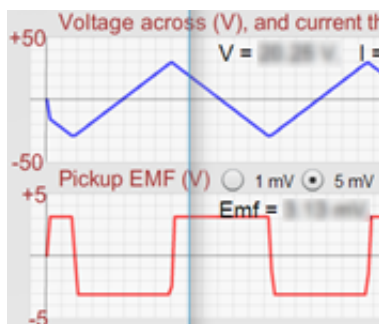

Figure 18: Constant Emf with Constant $\Delta I/\Delta t$
7 Move your Graph Tool to a position like the one shown in Figure 18, where the Graph Tool is well within the region of constant positive voltage on the Pickup EMF (V) graph. Record that constant emf value as $\text{emf}_{\text{measured}}$. This is the emf produced in the coil.